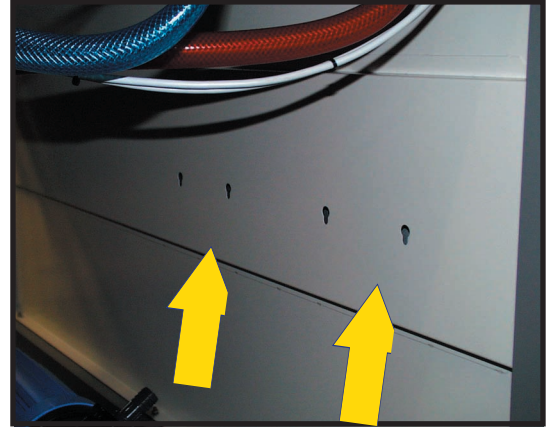

Fig. 6.
5) Install filter brackets with M6 bolts in the holes shown at Fig. 6.